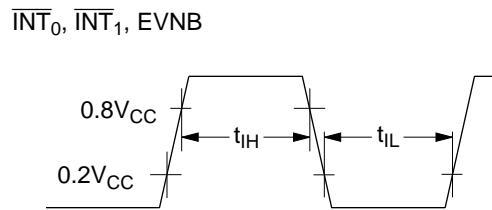

Figure 85 Interrupt Timing
4. Refer to figure 85.
- Refer to figure 85.